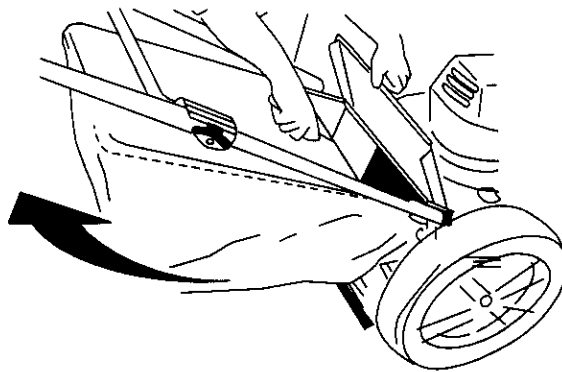

FIGURE 9
- Lift discharge door and pull grass bag up and away from the mower to dispose of the grass clippings See Figure 9.